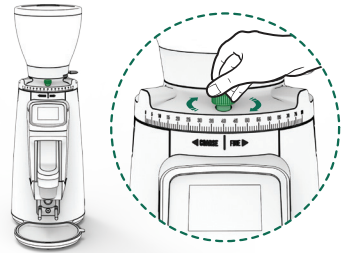

Fig. 11
12.3.7. To avoid losing the position of the regulator scale with respect to the current grinding point, it is essential to tighten the setting of the grinding regulator using the adjusting brake by turning it clockwise **(Fig. 11)**.